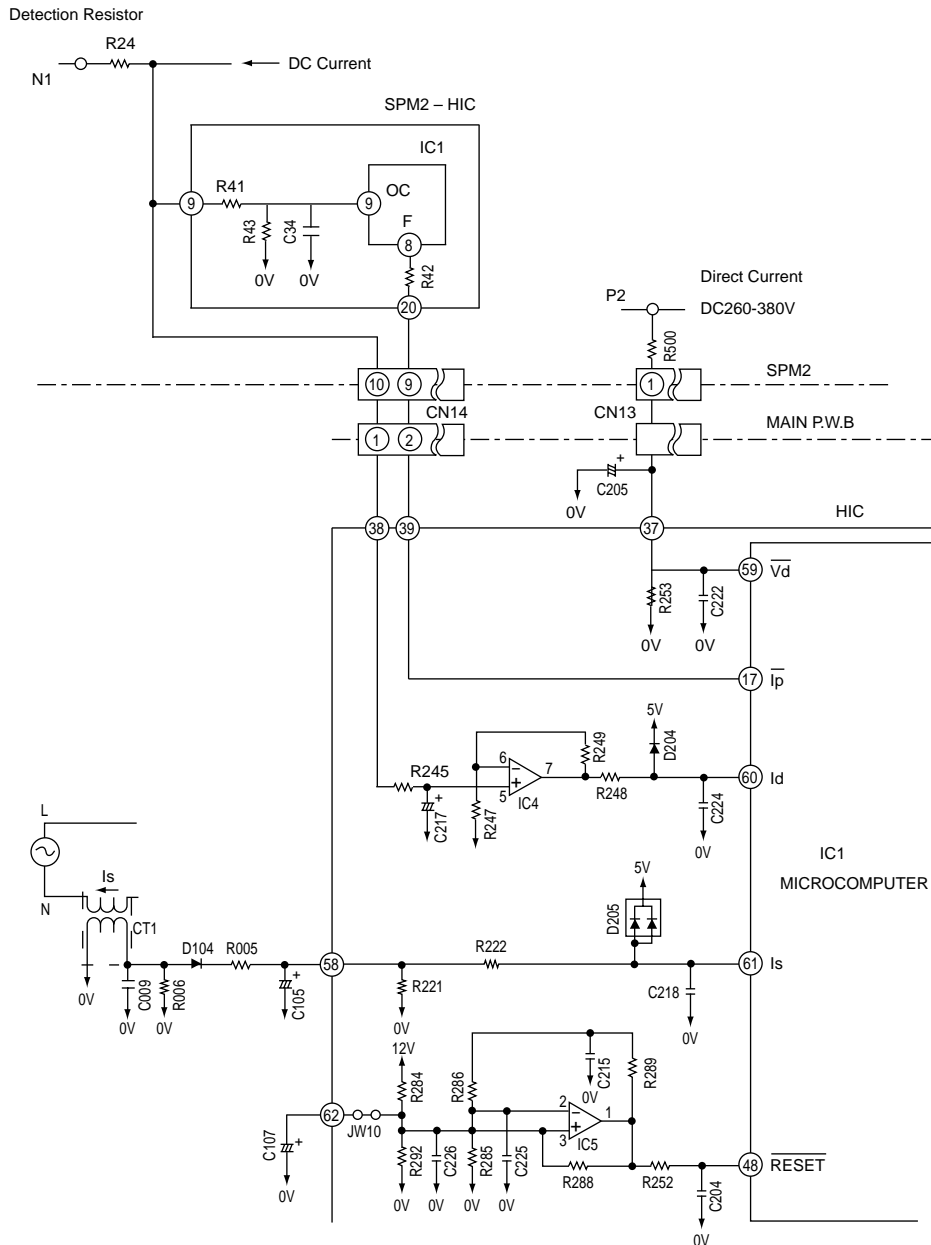
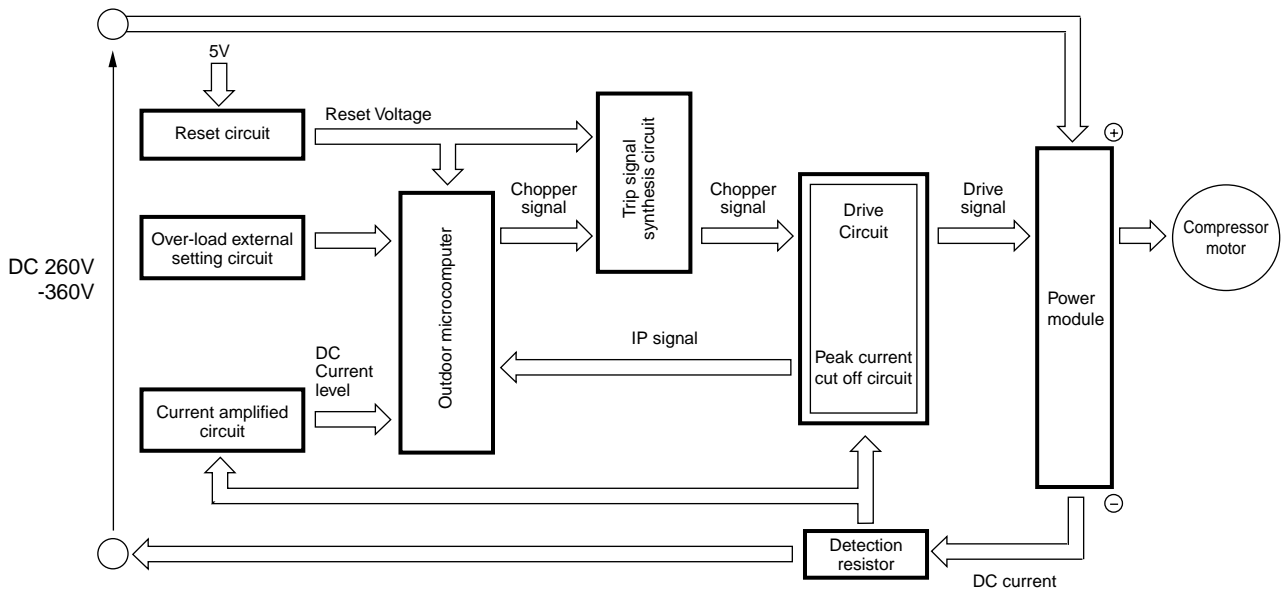

Fig. 8-1 Microcomputer and Peripheral Circuits
Fig. 8-2
- Fig. 8-1 shows the micro computer and its peripheral circuits, Table 8-1, the basic operations of each circuit block, and Fig. 8-2, the system configuration.
①. Overload external judgement circuit
- Fig. 8-1. The filter consisting of R245 and C217 removes high harmonic components from the voltage generated by the current flowing to Detection resistor; R245 and C217 average the voltage. This voltage is then input to IC4 pin ⑤ is then amplified and supplied to microcomputer pin ⑩. The microcomputer compares this input with the internally set value, and if the input exceeds the set value, it enters overload control status.